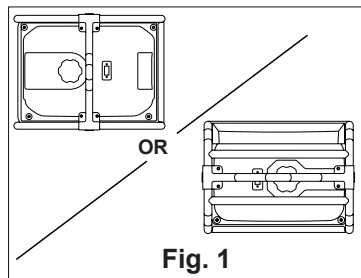

Fig. 1
1. Place lift bar assembly in the center of the upper frame bars on the generator. (Fig. 1).